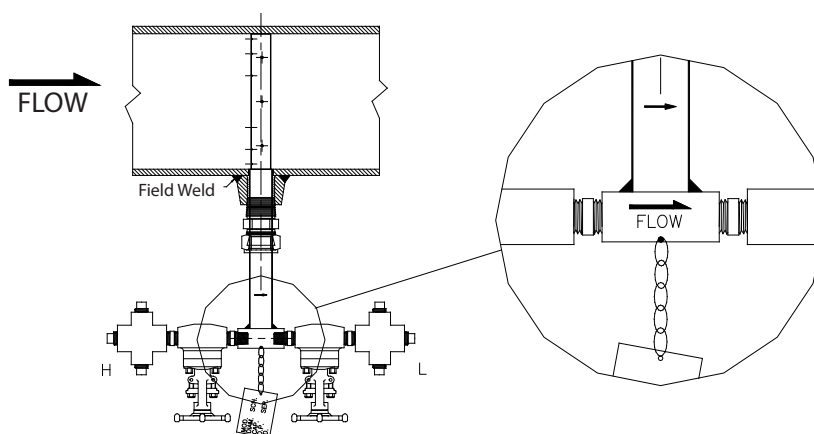

Figure 5: Sensor alignment
9. While holding the AS Ellipse in its fully inserted position, align the arrow on the sensor head with the direction of flow. See Figure 5.